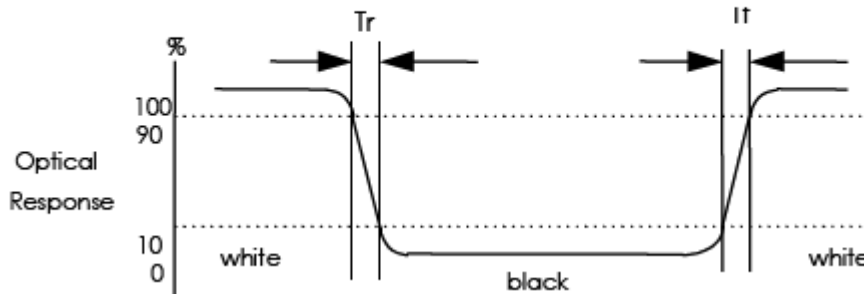

FIG.2 Measuring method for contrast ratio, surface luminance, luminance uniformity, CIE(x,y) Chromaticity
Note 1. Contrast Ratio(CR) is defined mathematically as For more information see FIG 2.:
Note 2. Surface luminance is the LCD surface from the surface with all pixels displaying white. For more information see FIG 2.
Note 3. The uniformity in surface luminance, δ WHITE is determined by measuring luminance at each test position 1 through 5, and then dividing the maximum luminance of 5 points luminance by minimum luminance of 5 points luminance. For more information see FIG 2.